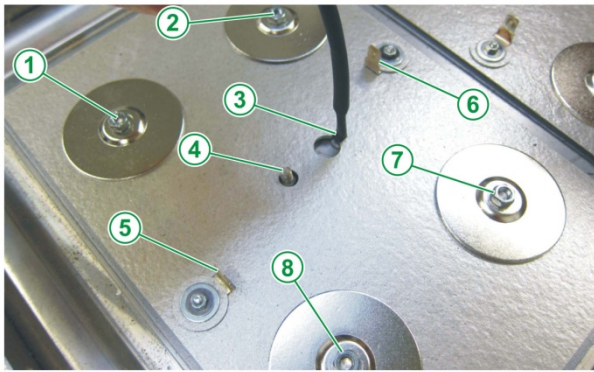

Fig. 67
- Apply the sensor in the keyhole (see Fig. 66 Pos. 3 e Fig. 67 Pos. 1 e 4).